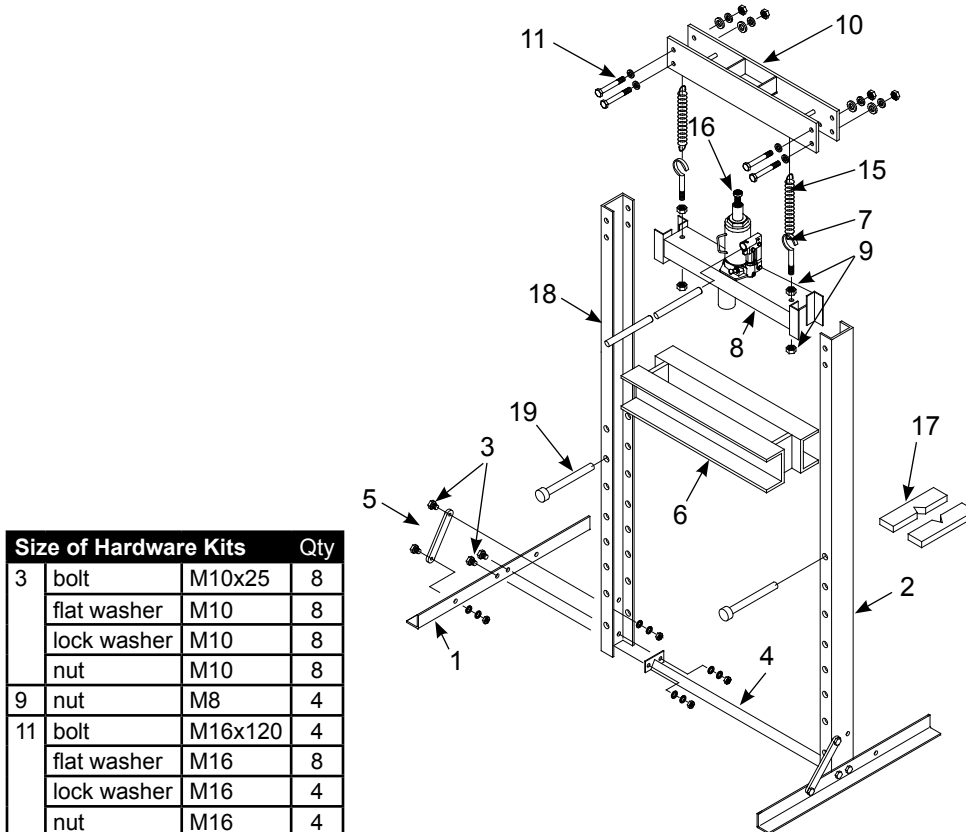

Figure 3 - Assembly Illustration for model 60120
**Model 60120:** (Refer to Figure 3)
1. Attach base legs (1) and lower cross member (4) to upright channels (2) with bolts, flat washers, lock washers and nuts (3). Hand tighten only.
2. Attach support links (5) to the base (1) and upright channels (2) with bolts, flat washers, lock washers and nuts (3).
3. Carefully slide bed frame (6) down to lowest possible position between the upright channels (2).
4. Attach screw hooks (7) to the jack bracket (8) with nuts (9) as shown in figure 3. Leave nut untighten to provide easy spring attachment.
5. Slide the jack bracket (8) down between upright channels (2) onto the bed frame (6).
6. Attach upper cross member (10) to upright channels (2) with bolts, flat washers, lock washers and nuts (11).
7. Attach one end of the springs (15) to the axles of upper cross member (10) and the other end to the screw hooks (7) on the jack bracket.
8. Carefully place the bottle jack (16) between the head plate of upper cross member (10) and jack bracket (8). Tighten the nuts (9) that hold screw hooks (7) to prevent jack from inadvertently falling out.
10. Carefully bring the bed frame (6) up and secure it with pins (9).
11. Place the Arbor Plates (17) on Bed Frame (6).
12. The press is now ready to use. Don't forget to insert the handle (18) into handle sleeve of bottle jack.